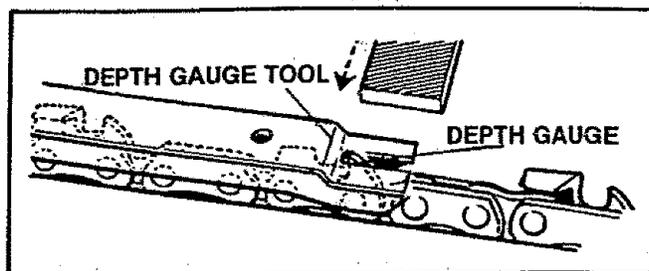

Figure 42
- a.) Place depth gauge tool over each cutter depth gauge. Figure 42.